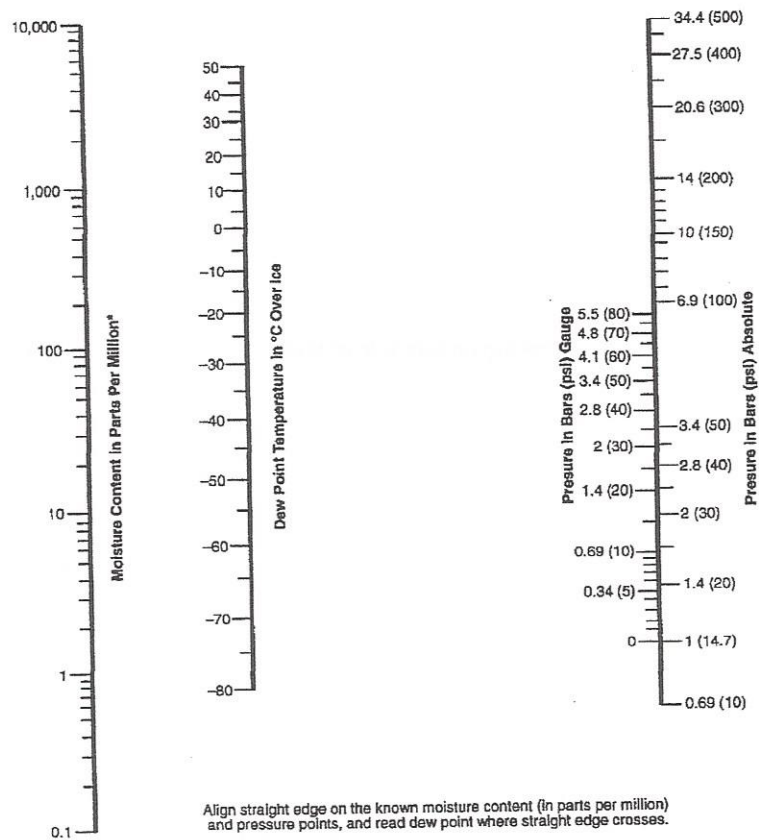

Figure C-1. Nomogram, Determination of Dew Point with Pressure
1. The graph is based on standard atmospheric pressure. See figure C-1 for relationship at other pressures.